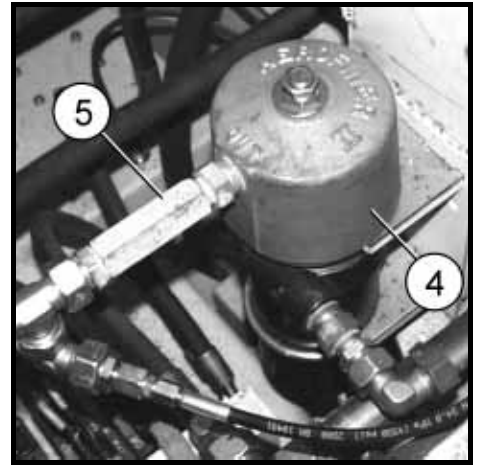

Fig. 4
The air dryer in the air pressure circuit (Fig. 4, pos 4) dries and filters the pressurised air.
Disconnect the air pressure line on the outlet to the air tank (Fig. 4, pos. 5).